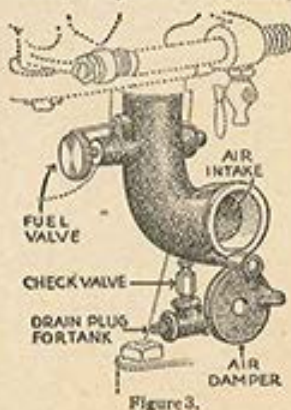

Figure 3.
**Third.** Open the fuel valve (Figure 3, page 10) one-half turn on 1½ H. P. and from one to two turns on larger sizes.
The mixing valve (Figure 3) is of the suction feed type, gasoline being drawn from the tank in the base by the suction of the piston. The air and gasoline are mixed in this valve to form the explosive gas.
If it is ever necessary to take the mixing valve and feed pipe off the engine, be very careful not to lose the valve out of the check valve, because if this valve is not in place your engine will not get any gasoline. To drain gasoline from tank remove drain plug. (See Figure 3.)